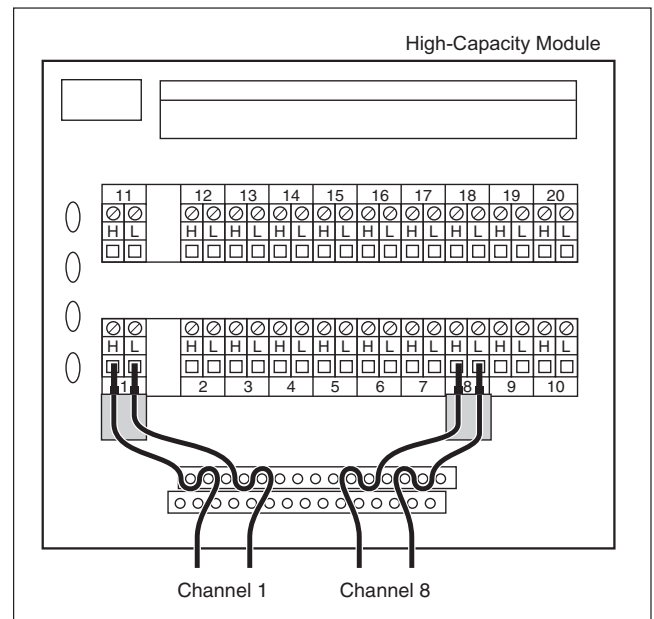

Figure 3. Completed 1586A-101 Installation (Typical)
6. Close the module cover, secure the locking cams and insert the module into the connector slot at the rear of the instrument until it latches into place (Figure 3).